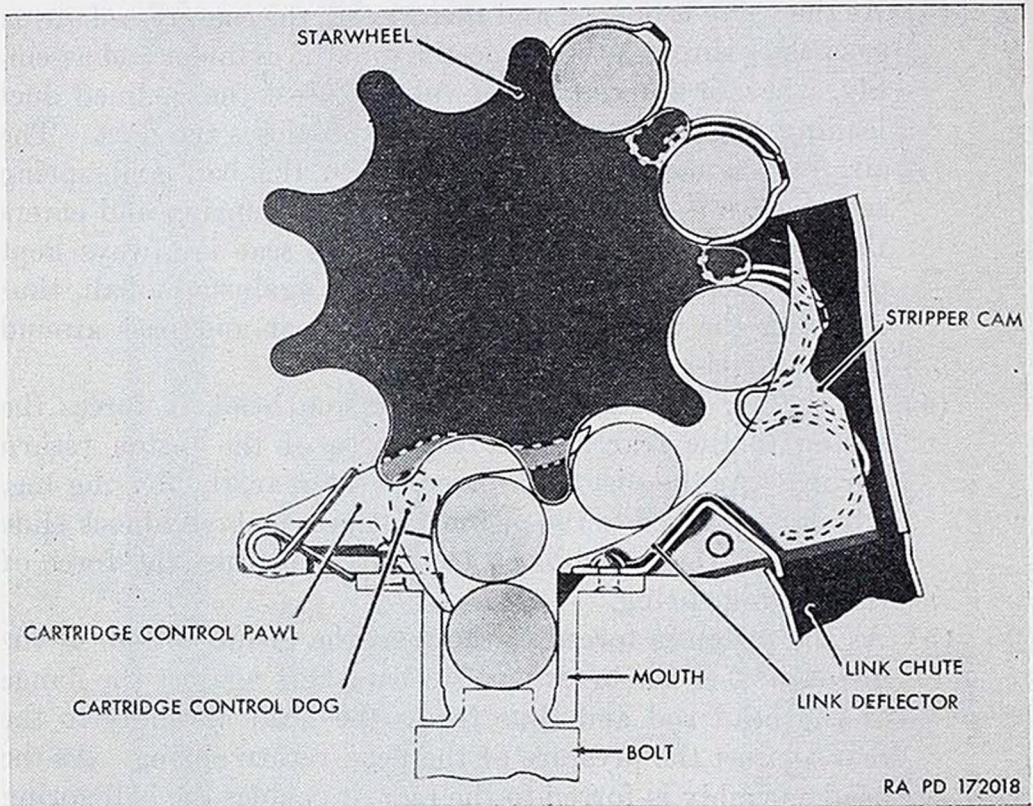
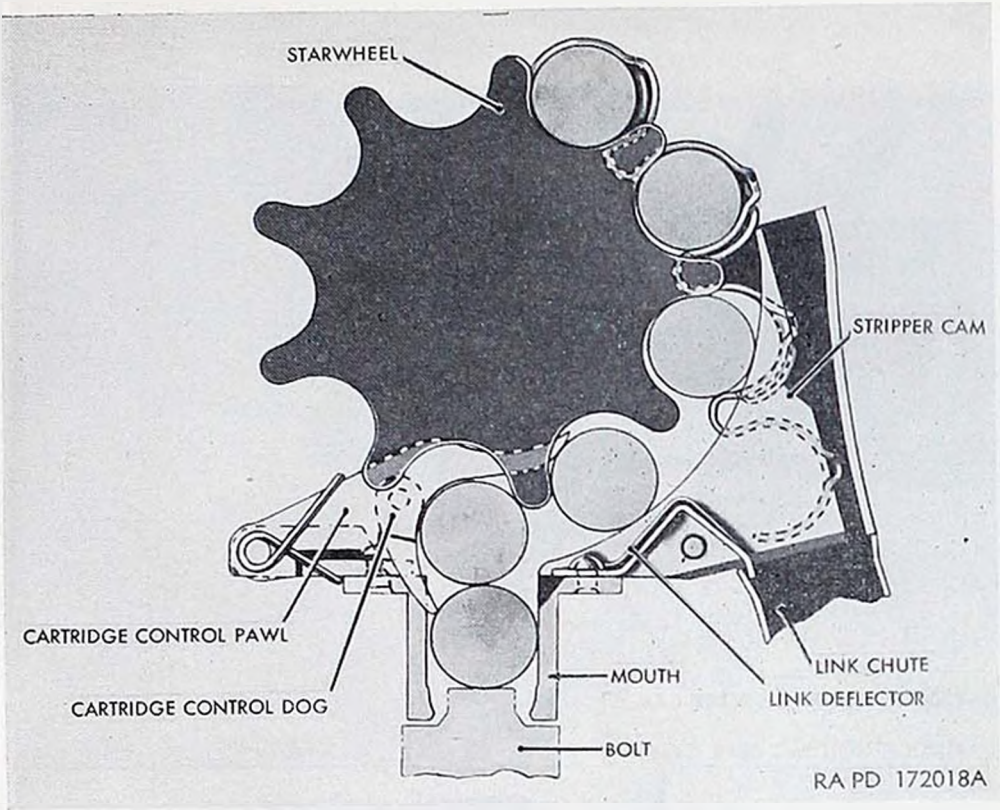
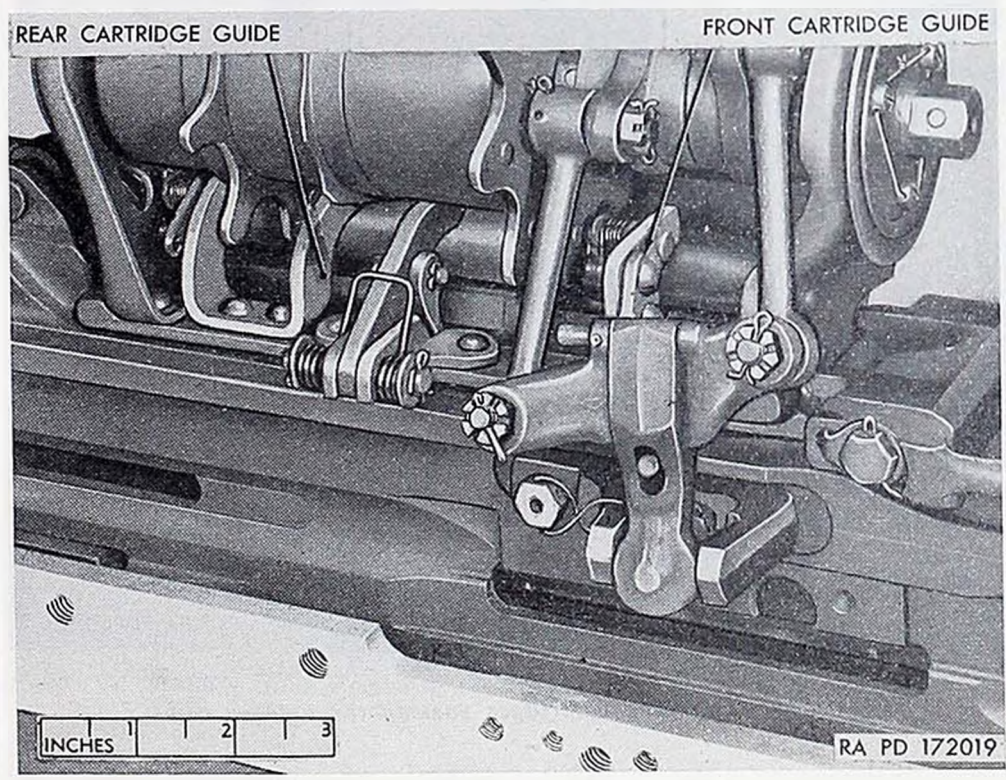
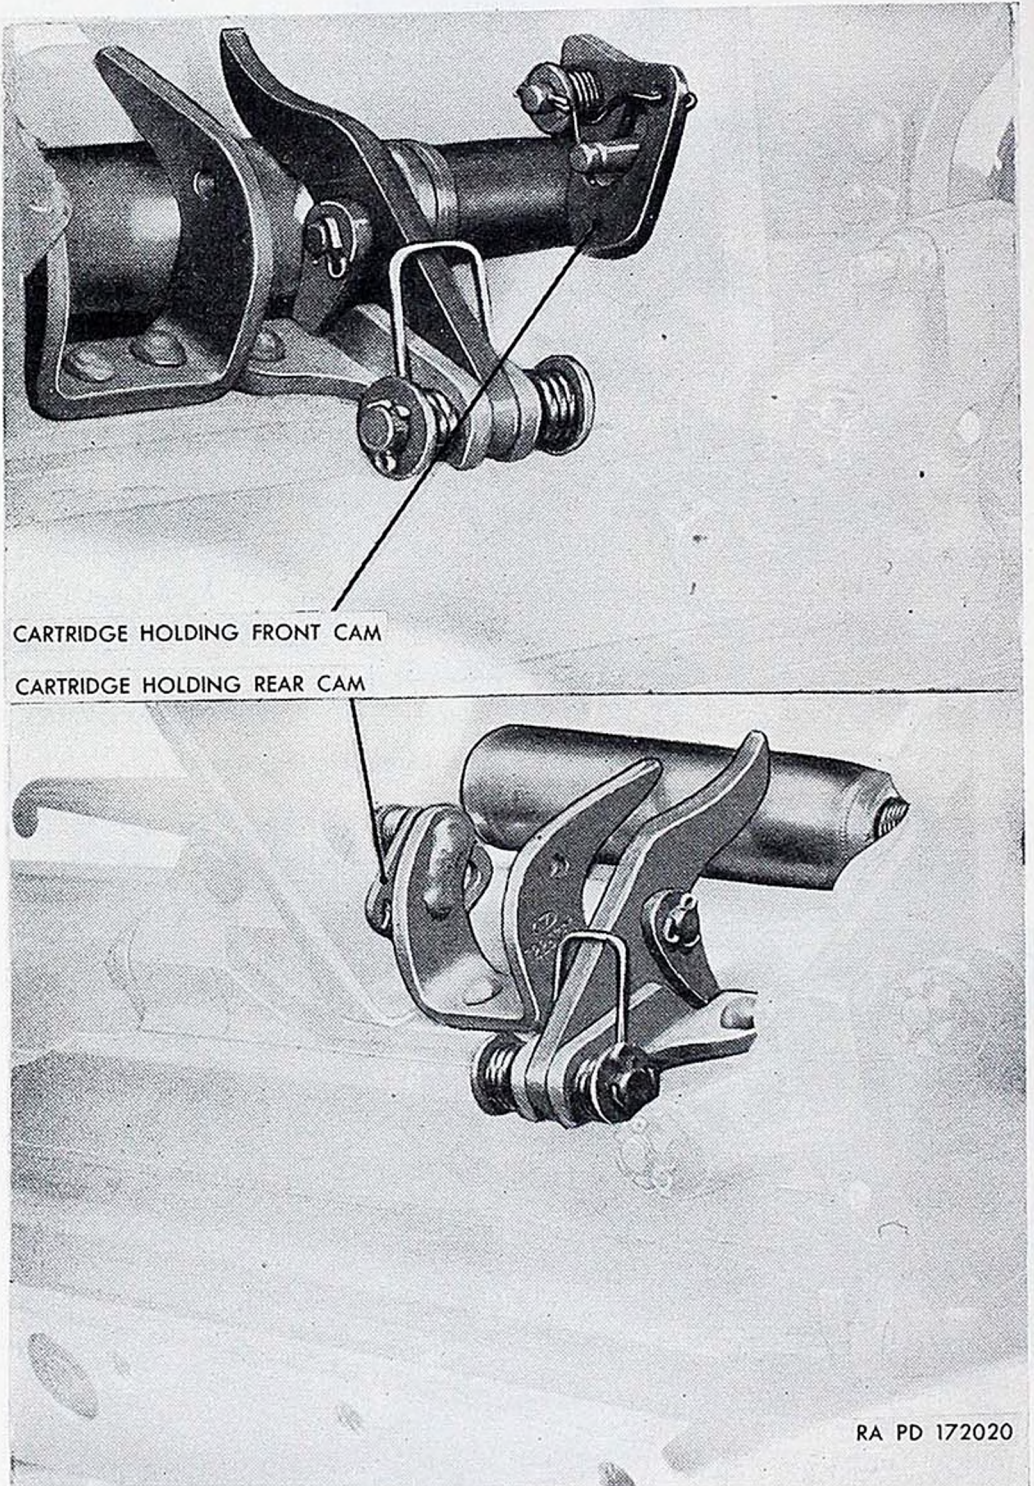

Figure 67. Stripper cam action in single-loop feed.
Figure 68. Stripper cam action in double-loop feed.
Figure 69. Action of cartridge guides.
Figure 70. Incoming cartridges passing the holding cams.
- (3) As the valve is opened and then closed, the compressed air on gas passes through the connector into the cylinder end assembly, where it forces the end valve against the inclined duct leading into the charger cylinder and closes the duct. The air, in the meantime, continues into the ball and spring seat, where it pushes the ball against the spring and enters the seat. The rear opening from the seat is always kept open by the pressure of the head rod against the ball, thus allowing the air to escape from the seat and pass around the head rod against the piston head.
- (4) As the air expands against the piston head, it forces the piston to the rear against the force of the piston return spring. As the piston is forced to the rear, the driving lug, which is attached to the piston, engages the breechblock slide and moves the breechblock to the rear against the force of the driving spring.
- (5) As the piston is forced to the rear, the inside bottom of the piston pushes the brass and steel washers against the flange of the head rod and thus forces the head assembly to the rear against the pressure of the head return spring. As the head assembly is forced to the rear, it enables the ball spring to act upon the ball and close the rear opening in the seat. This action prevents the entry into the cylinder of any more air than is necessary to charge the gun. When the storage cylinder control valve is closed, the supply of air is cut off and the line leading to the charger is opened to the outside, permitting escape of air between valve and charger, thus lowering the pressure in the front end of the valve. The air in the cylinder, therefore, passes up into the inclined duct, forces the valve to the rear, and escapes through two side openings in the valve seat. As the air escapes, the return spring forces the piston forward into its original position. The head rod now forces the rear outlet of the ball and spring seat open, thus making the charger ready for another operation cycle.
b. As the belt rotates with the driving mechanism, the stripper cams (figs. 67 and 68) wedge between each cartridge case and the
ears of the belt links and thus strip the links from the cartridges. If the empty single loop leads the belt, the first single loop is guided into the link chute by the link deflector, while the double loop (with the single loop between it) is being cammed from the round, as shown in figure 67. If the filled double loop leads the belt (left-hand mechanisms M2E4 and M2E5), the first double loop is cammed from the round and directed by the link deflector into the link chute, while the next double loop (with the single loop between it) is cammed from the round by the stripper cams, as shown in figure 68. The link is ejected from the feed mechanism through the link chute adapter. After the links have been stripped from them, the rounds are carried on by the star wheel until they are in line with the mouth. At this point, they are guided into the mouth by the front and rear cartridge guides (fig. 69), where they contact the spring-operated cartridge holding front and rear cams (fig. 70) and force them aside. The cams prevent the rounds from re-entering the feed mechanism after they have been forced into position in the mouth of the feed mechanism, as shown in figures 71 and 72.